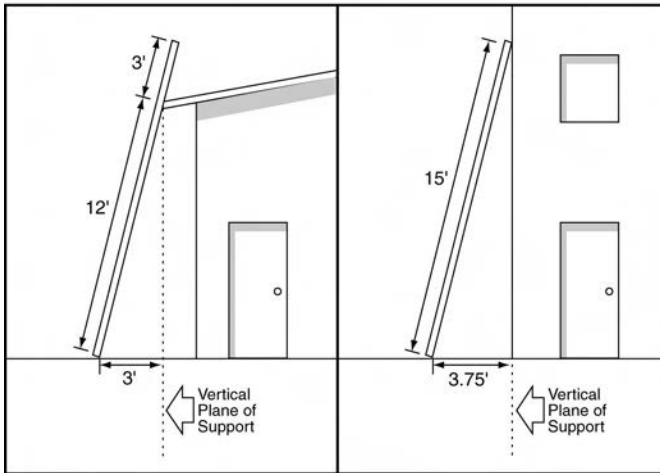

Figure 3B. Setting Up an Extendible Ladder
- f. Set the ladder at a 4 to 1 pitch. (See Figure 3B.)